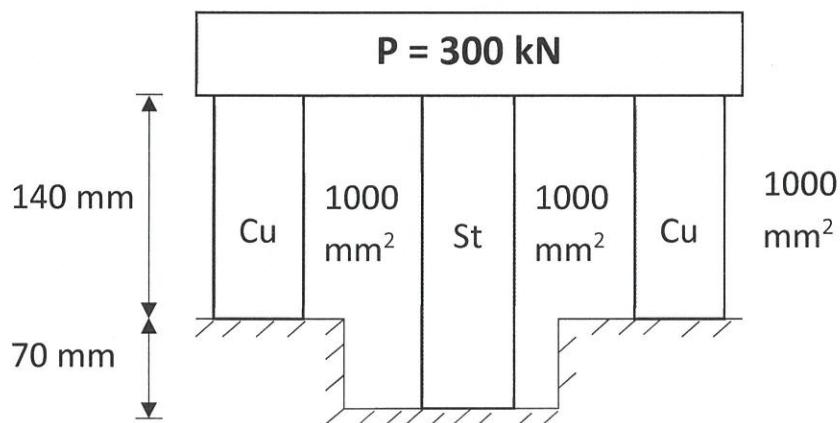

Figure 1(b) / Rajah 1(b)
- (c) Figure 1(c) below shows a composite bar made from aluminium and brass with a temperature of  $40^{\circ}\text{C}$ . Calculate the stress in each bar if the composite bar has been heated to  $76^{\circ}\text{C}$ . Given,